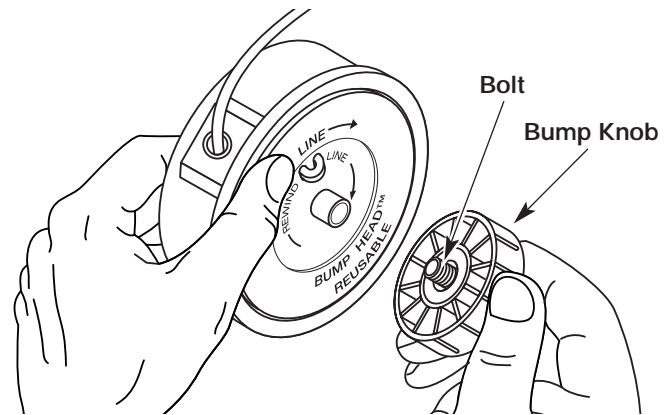

Figure 17
1. Hold the outer spool with one hand and unscrew the bump knob counterclockwise. See Figure 17. Inspect the bolt inside the bump knob to make sure it moves freely. Replace the bump knob if damaged.